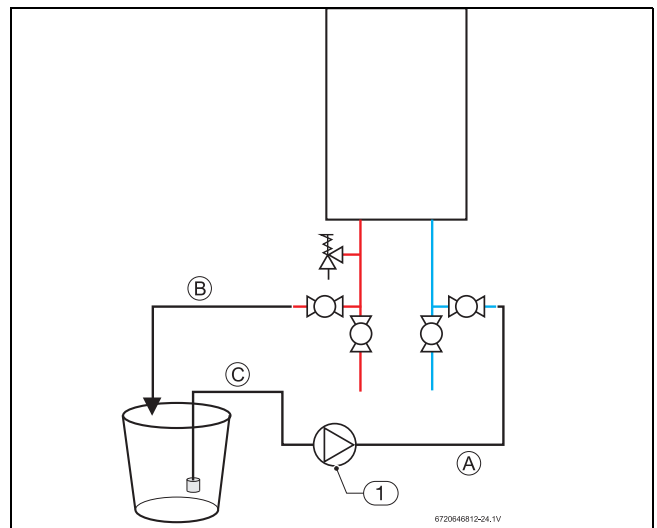

Fig. 64
- ▶ Connect a line (A) from the outlet of the circulating pump (installer supplied) to the inlet water fitting on the water heater (see fig. 64.)
- ▶ Using another line (B), connect the water outlet fitting on the water heater. Route the other end of this line into a descaling reservoir.
- ▶ Using a 3rd line (C) from the descaling reservoir, connect to the inlet side of circulating pump. Install a filter on the end of the line in the descaling reservoir.